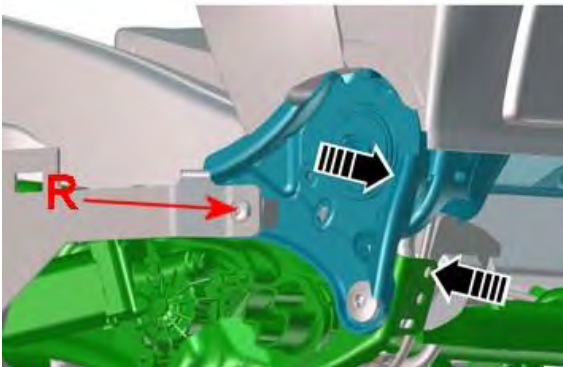

Figure 19
- To enable access to the outer front squab marriage fastener the side valance subframe fastener (R) should be released (see Figure 19)